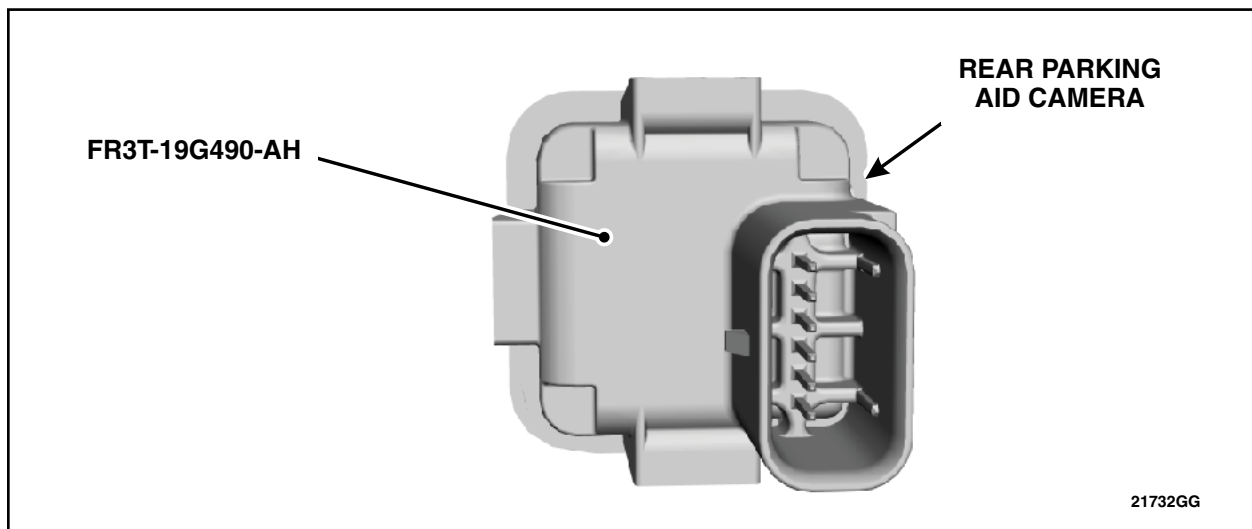

FIGURE 2
4. With the rear parking aid camera out of the vehicle, inspect the engineering part number on the back of the camera. See Figure 2.